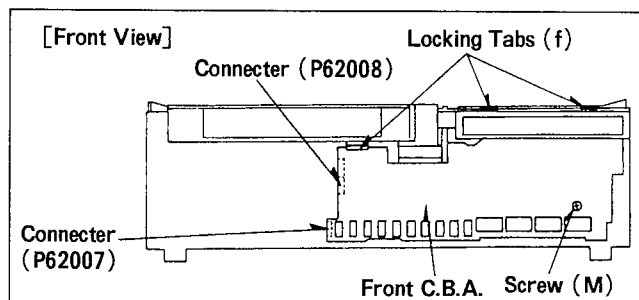

Figure D18
7. Unscrew a screw (M) and unlock the 3 locking tabs (f) on the Front C.B.A. (Figure D18)
8. Carefully pull the Front C.B.A. off the unit (with taking care for the connection to the Mother C.B.A.) and then disconnect the 2 connectors (P62007 and P62008). (Figure D18)